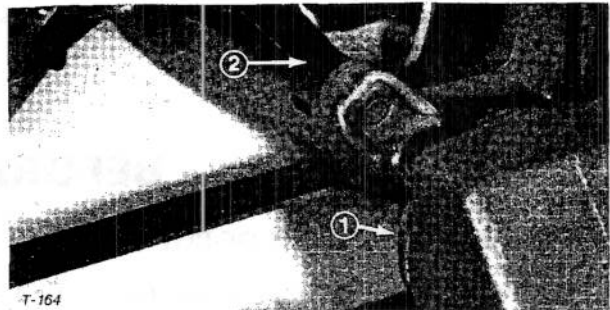

Figure 10
2. Stop engine, remove clevis pins and hairpins from forward and rear height-of-cut brackets (Fig. 12), install cutting unit under frame, align gearcase input shaft with PTO shaft and install shaft (Fig. 10).